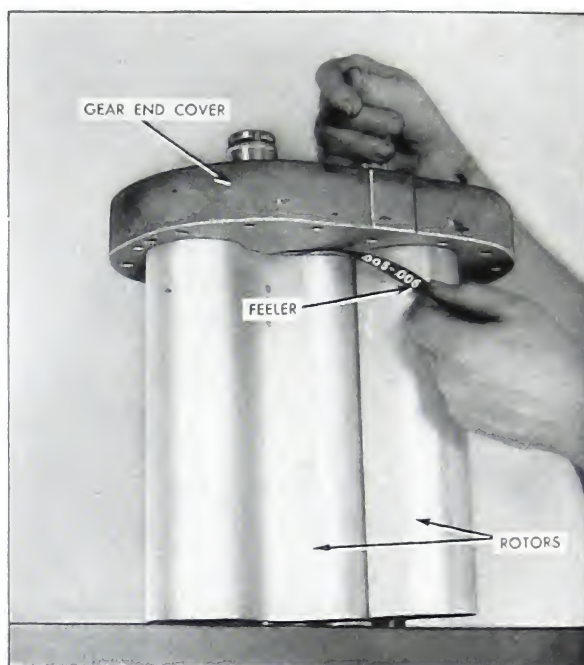

Fig. 10-9. Gear End Plate Clearance
9. With a feeler gage check the clearance between the rotors and end plate as shown in Fig. 10-9. This clearance should be .005 to .006. Bearing spacers or steel shims are available in steps of .002, .003 and .005. The proper spacer or shims should be used to obtain the .005-.006 end clearance. Use between shaft shoulder and bearing inner race.